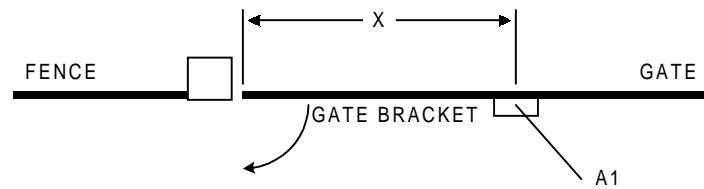

Figure 21
2. Once the gate bracket has been attached to the gate, close the gate fully and mark a point on the ground directly under the center of the mounting bracket. Label this point A1 (Figure 21).